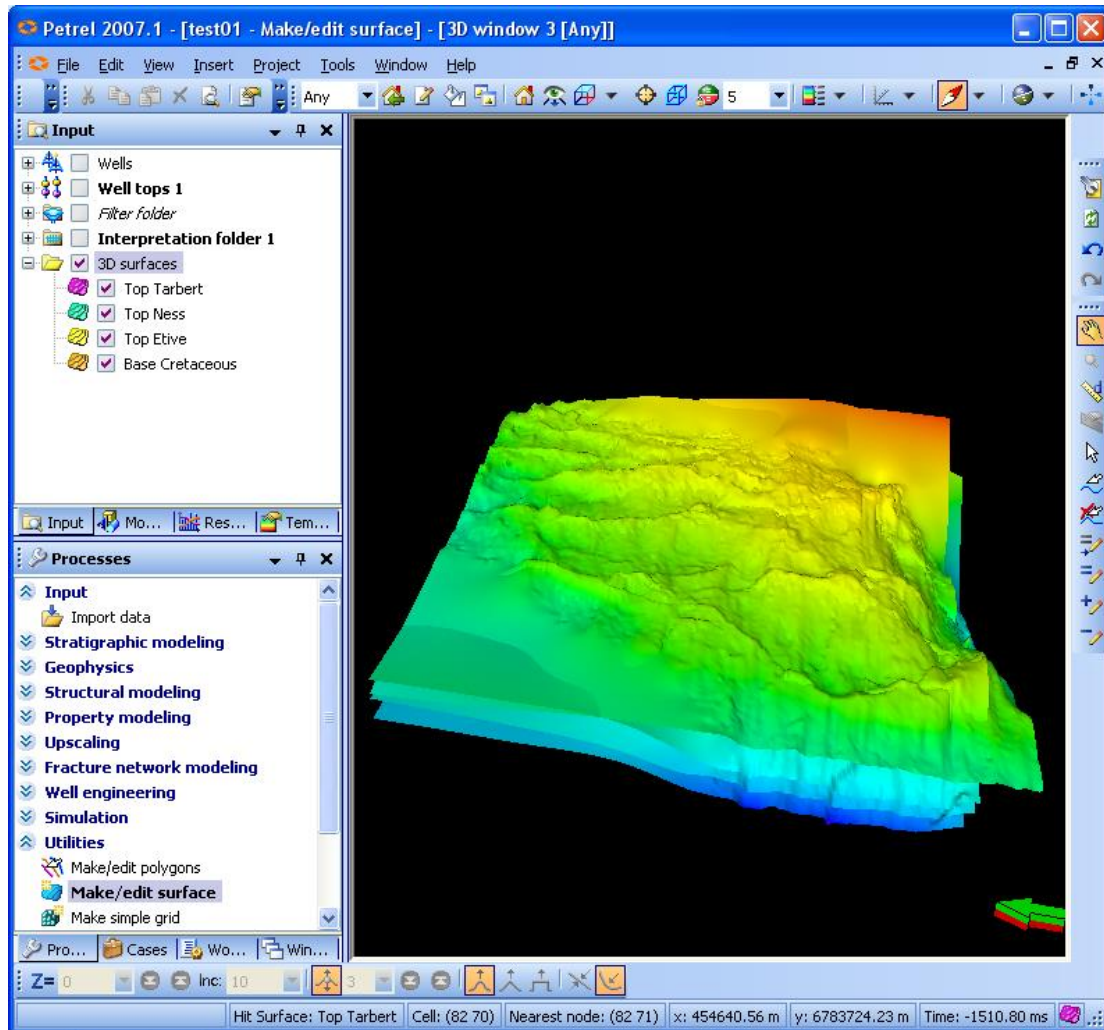

Fig.9.26: The 3D Surfaces after removing the peak
3. Click on the peak to be removed. The peak disappears as shown in Fig. 9.26.